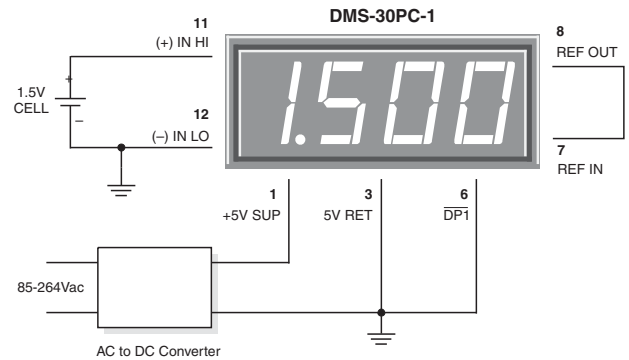

**Figure 4.** Input Attenuation Circuit
**3. Engineering Scaling:** For measuring voltages greater than the full scale input range of a given meter, the input signal must be attenuated. A simple voltage divider (similar to that shown in Figure 4) will scale the input to within the range of the selected meter. R1 and R2 should be precision,  $\pm 1\%$ , metal-film resistors with absolute TCR's less than 50ppm/°C. See Ap Note 4 for more information on engineering scaling.